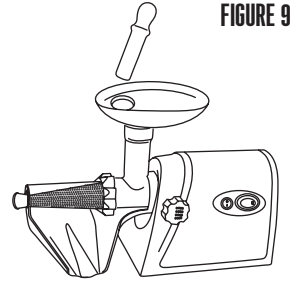

FIGURE 9
10. Insert the Screen end of the fully-assembled Grinder Head through the outlet end of the Plastic Chute (**FIGURE 9**).
13. Install the Tray onto the Grinder Head. Press the Tray down until fully seated (**FIGURE 9**).